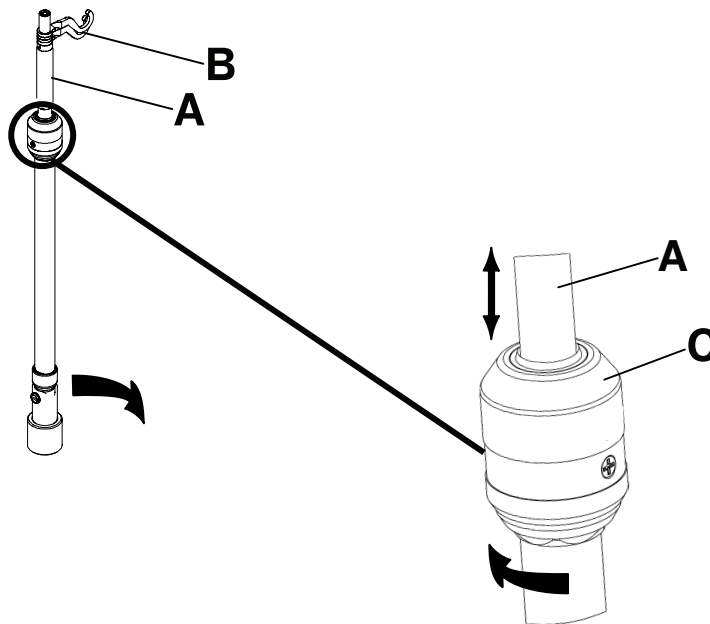

Figure 90: Operating the IV pole
3. To raise the height of the pole, pull up on the telescoping portion (A) until it locks into place at its fully raised position (Figure 90 on page 98).
4. Rotate the IV hangers to the desired position and hang the IV bags (B) (Figure 90 on page 98).
5. To lower the IV pole, turn the latch (C) until the telescoping portion lowers (Figure 90 on page 98).